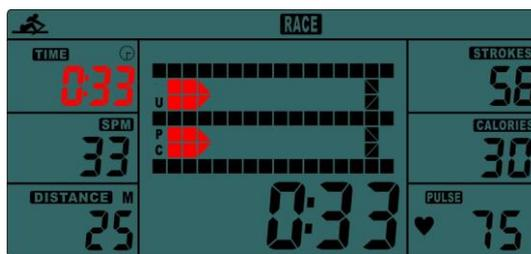

Fig.6
- B. Press START KEY to START and STOP will disappear. The USER & PC will display in the matrix.(Fig.6).the monitor will STOP when one have reached the distance of race which has been set before, then the matrix displays "PC WIN or USER WIN"(Fig.7) and may display the state of the energy after 6 seconds.